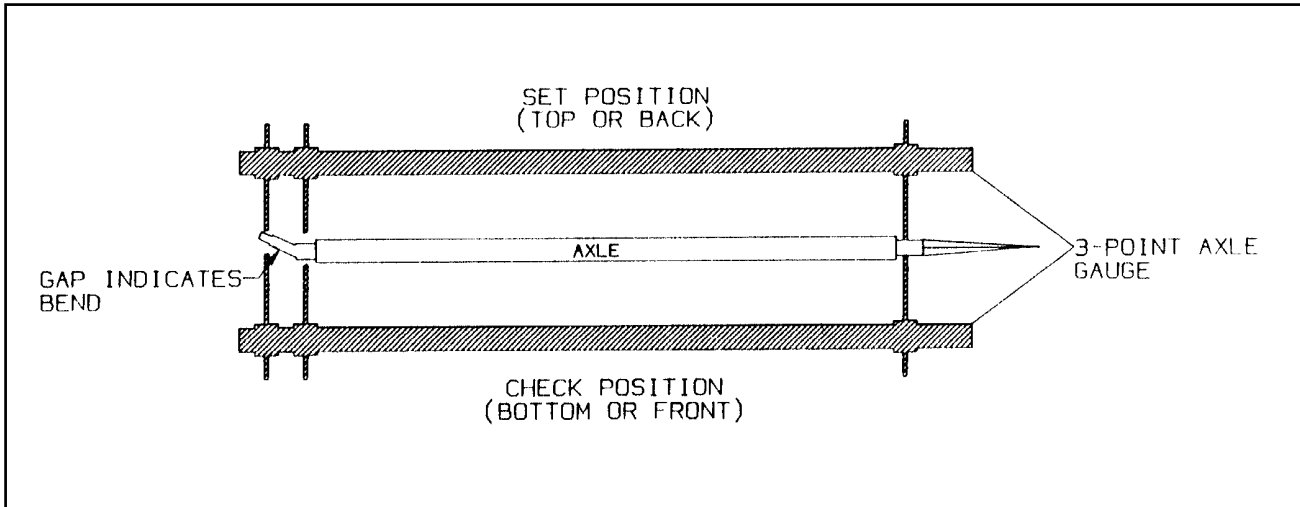

Figure 4-4 Checking Axle for Bend
- b. Place a 3-point axle gauge against the front side of the axle, and adjust each axle gauge point to the axle. (Double point end against the inner and outer wheel bearing surfaces of the spindle being checked and the other point on the inner bearing surface on the other spindle.) (See Figure 4-4).
- c. Move the axle gauge and place against the back side of the axle. If either of the points of double point end fails to touch the axle surface, a bent spindle is evident. A point gap of .015" or more is considered excessive tire "toe" and the axle must be replaced (**See Figure 4-4**).